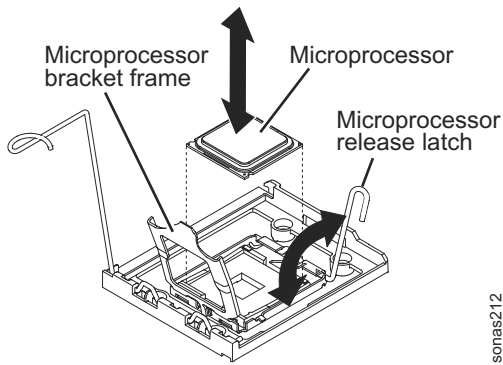

Figure 43. Microprocessor release latch
7. Release the microprocessor retention latch by pressing down on the end, moving it to the side, and releasing it to the open (up) position. See Figure 43 on page 139.